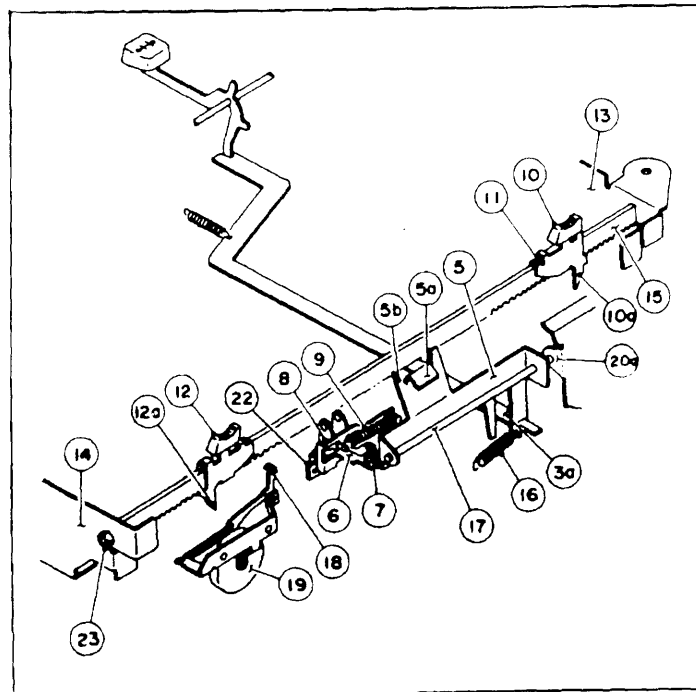

Fig. 2-14. This is the margin stop and margin release mechanism of the Olympia Model B-12, taken from the Olympia service manual (courtesy of OLYMPIA USA INC.).
Yet another margin stop mechanism is shown in Fig. 2-14. The left margin stop (10) is set where the typing line should begin, and the right margin stop (12) is set where the carriage should stop—or the typing line should maximally end. When the carriage moves toward this latter position by actual typing, the right margin stop (12a) touches the carriage stopper (5a), and, simultaneously, the stopper (5c) touches the back frame (20a). This stops the movement of the carriage stopper (5), and the carriage is stopped.